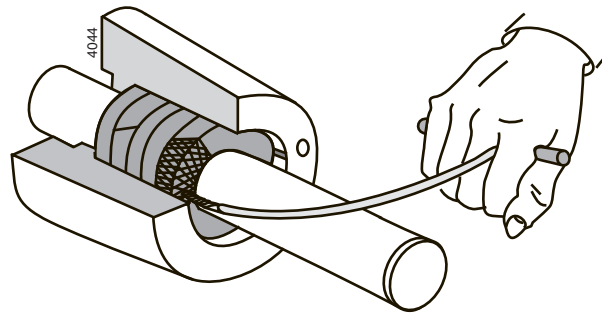

Figure 11: Removing stuffing box packing rings.
- 3 Remove the packing rings (0140) from the stuffing box. Use the special packing puller for this, see figure 11.